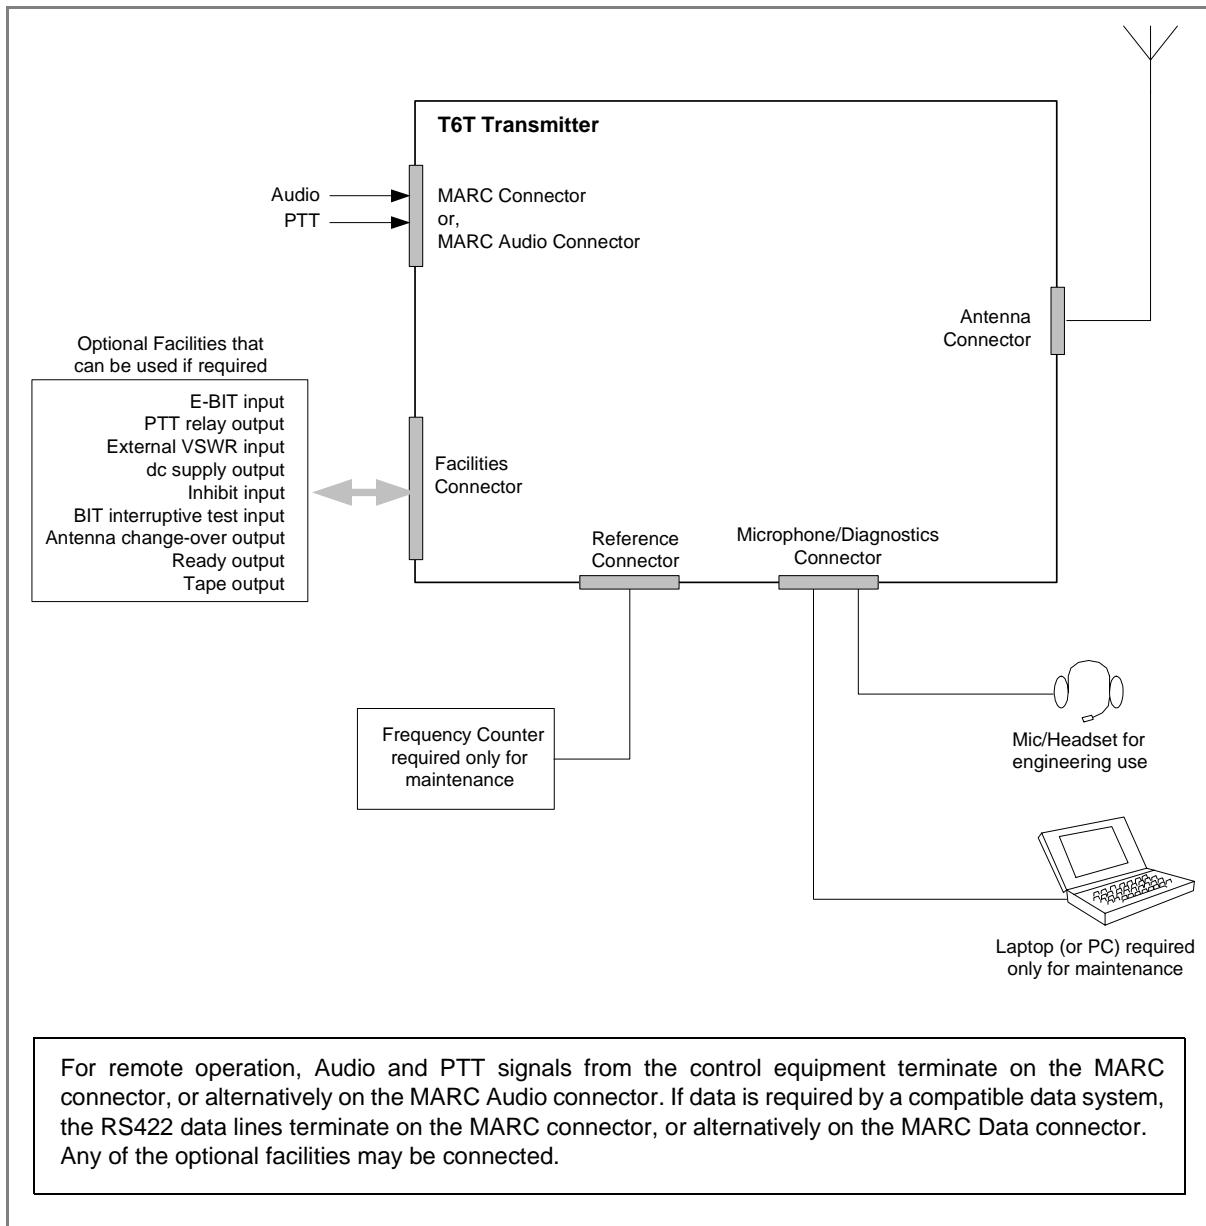

Fig 2 T6T Transmitter Configured for Remote Operation
- T6T transmitter configured for remote operation (see Fig 2).